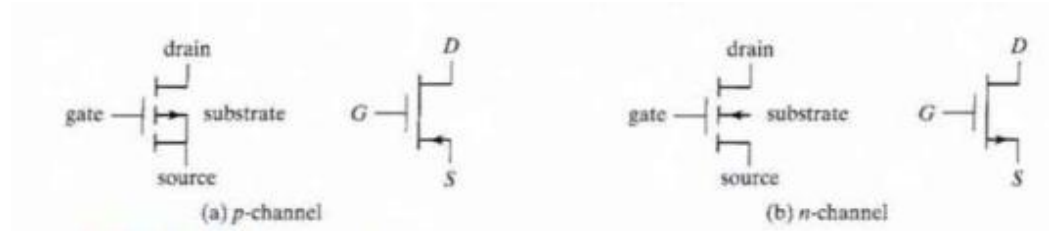

Fig 16. Symbol for MOS transistors
- The symbol shown in figure 16 for the enhancement type is the one with the broken-line connection between source and drain .